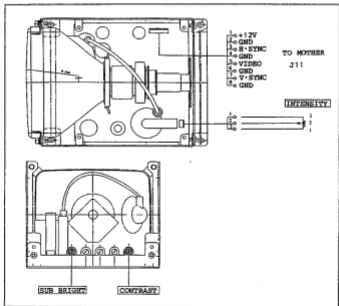

Figure 6-2 Fine Adjustment of The CRT Unit
- ② Set the intensity to the maximum value with INTENSITY.
- ③ Adjust the intensity with "SUB BRIGHT" (See Figure 6-2.) so that the back raster appears faintly.
- ④ Adjust "CONTRAST" to strengthen the contrast (See Figure 6-2.) as far as the pattern is not distorted remarkably and can be focused.